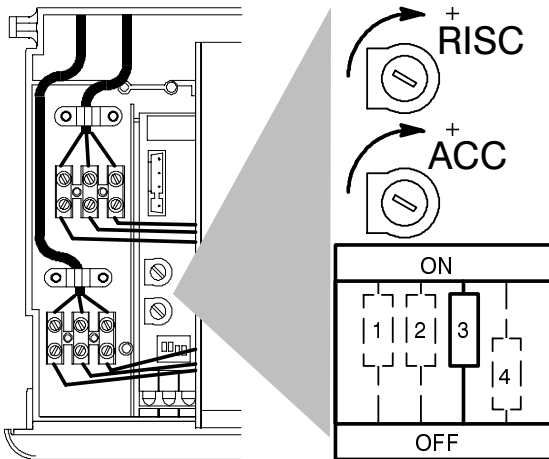

Fig. 7.8
- 14 Check the ignition gas pressure by setting dip-switch "3" (Fig. 7.8) to the OFF position. Compare the value on the gauge with the value indicated in the sections 4.6 or 4.7 (gas pressures at the burner), accordingly with the
To adjust the ignition gas pressure, set dip-switch "3" (Fig. 7.8) to the OFF position and adjust potentiometer marked "ACC" with a screwdriver until correct ignition gas pressure is obtained.
With the boiler operating in c.h. mode, use a suitable screwdriver to turn the adjustment potentiometer marked "RISC" (Fig. 7.8).